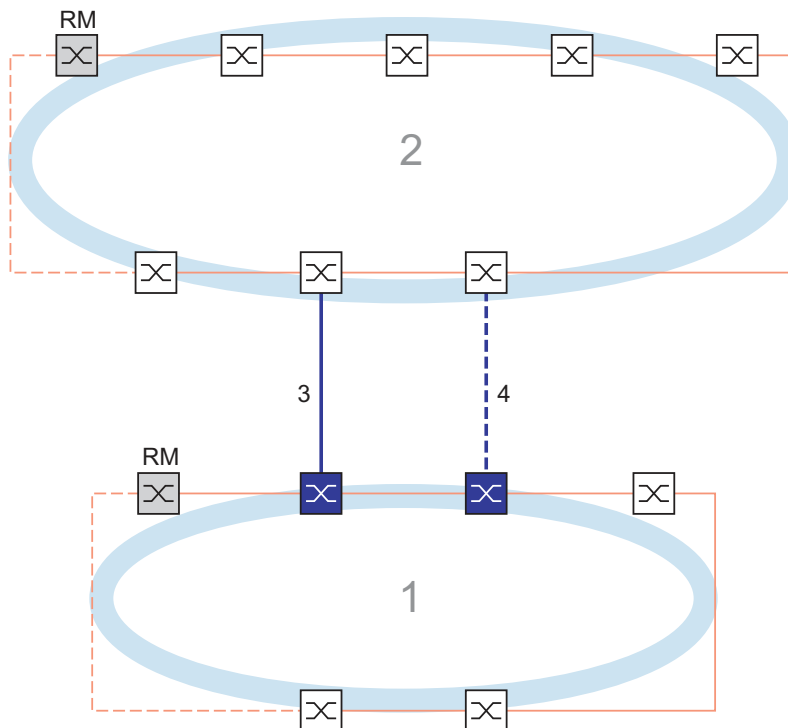

Figure 69: Example of Two-Switch coupling
One port each from **two** devices in the first ring/network connect to one port each of two devices in the second ring/network segment (see figure 69).
- If you connect to a bus or mesh structure, then select the *network coupling* radio button.The *Coupling mode* describes the type of the backbone network to which you connect the ring network (see figure 69).